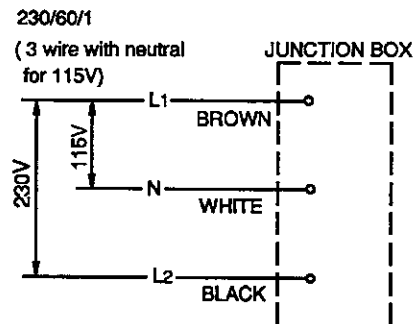

Fig. 4
* A WHITE lead must be connected to the neutral conductor of the power source. Miswiring results in severe damage to the icemaker. See Fig. 4. (except Water-cooled Model)